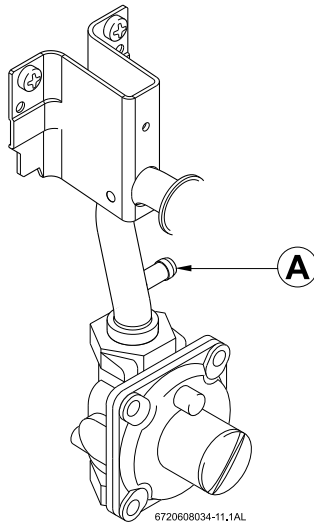

Fig. 14 Gas pressure measuring point
- ▶ Remove front cover and locate inlet gas pressure measuring point on the right side, see Fig. 14.